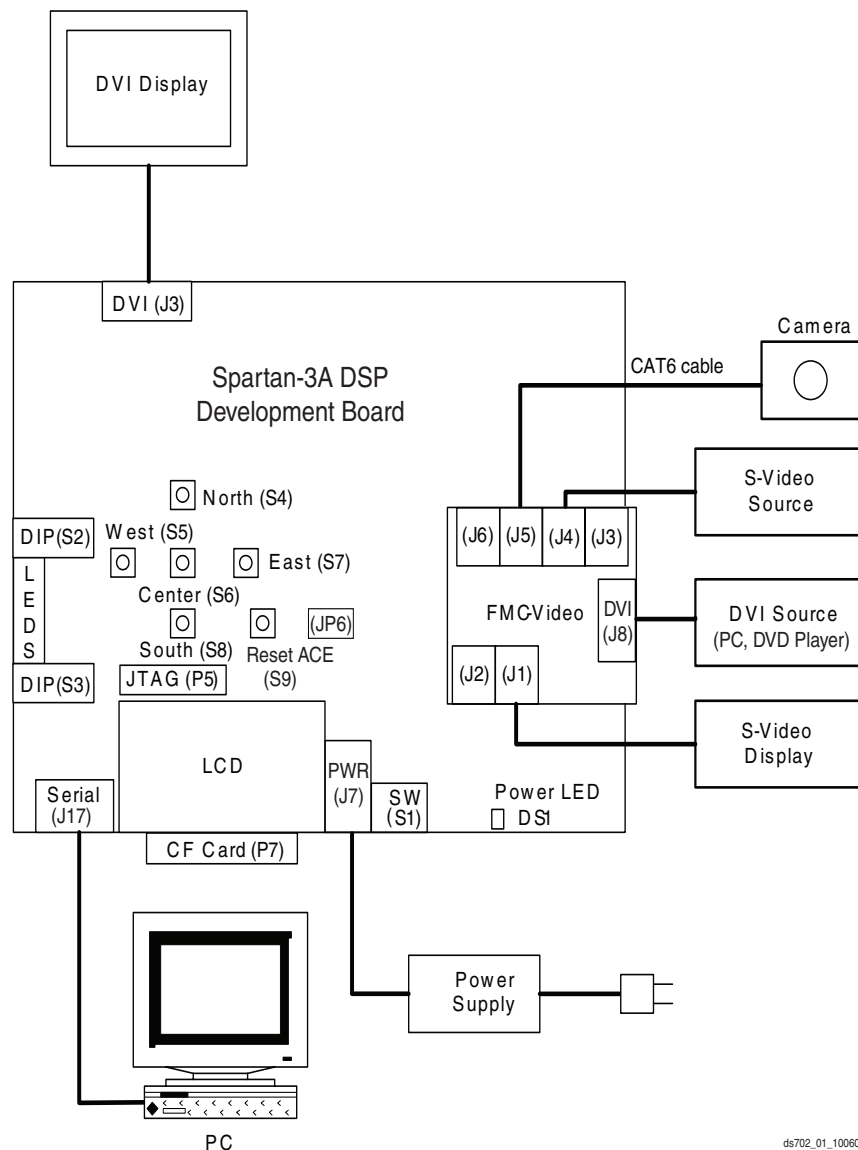

Figure 1-1: Video Starter Kit Physical Setup
1. As shown in Figure 1-1, set the power switch (S1) to OFF and insert the Compact Flash (CF) memory card into the Compact Flash slot (P7) on the board.